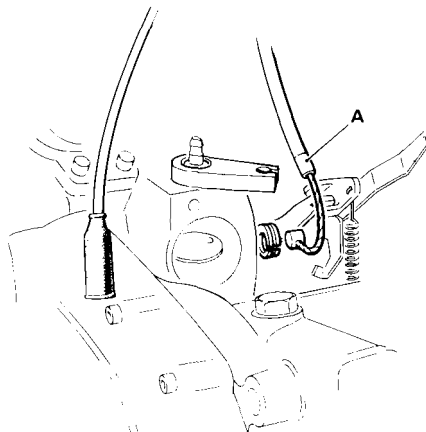

Figure 53 Removing the lower throttle cable
1. Lift the cable outer ferrule (A) from the bracket on the back of the LH rotor housing (Fig 53)